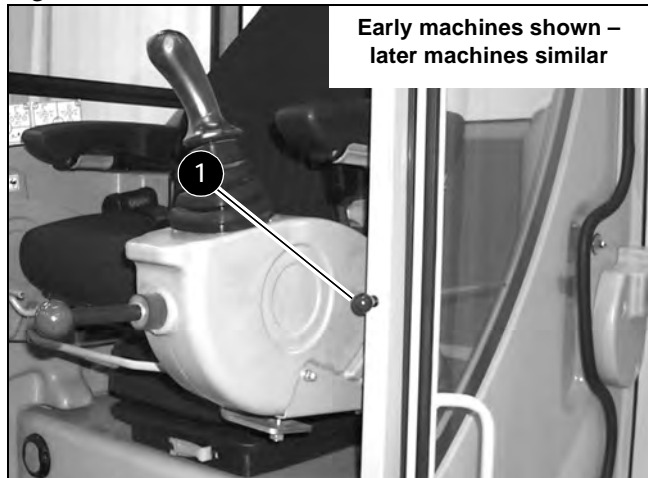

Figure 3-29 Cab Door Latch Release
the black knob (1) located on the inside of the door. See Figure 3-29